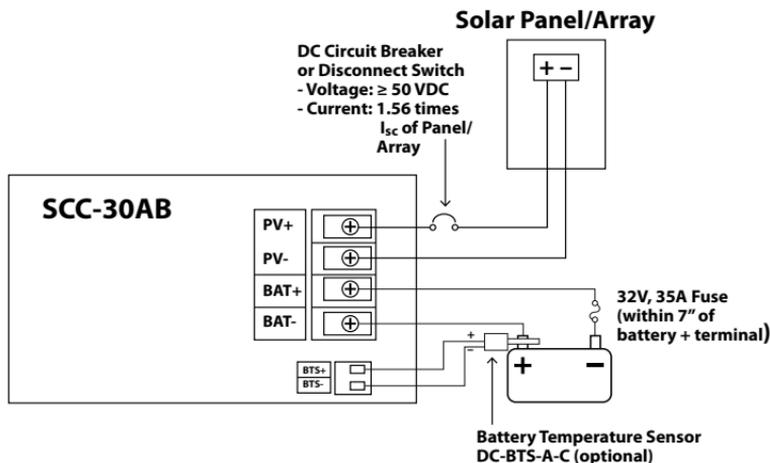

Fig. 6.2. Installation Diagram
3. The connections to the SCC-30AB terminals are shown in the drawing at Fig. 6.2. A barrier type of Terminal Strip has been provided for connecting the PV array and the battery. M-4 screws with clamping washers are used to make the connection. A flat or a #2 Philips head screw driver may be used to tighten these screws. Tighten each terminal clamping screw to 20 inch-pounds of torque. The distance between the barriers is 9 mm and a standard Spade Type of terminal lug meant for #8 Stud and AWG #10 – AWG #12 wire may be used at the end of the wires to be connected to these terminals. **4 such terminal lugs are provided with the unit for ease of installation.**
BTS consists of a temperature sensing probe that is installed on the (-) Negative battery post (Fig. 6.2). The temperature of the battery post reflects the approximate temperature of the electrolyte. A pair of 10 metres wires (marked + & -) connect the temperature sensing probe to the 2 terminals marked (+) BTS and (-) BTS at the back of the unit (Figs. 5.2 & 6.2).